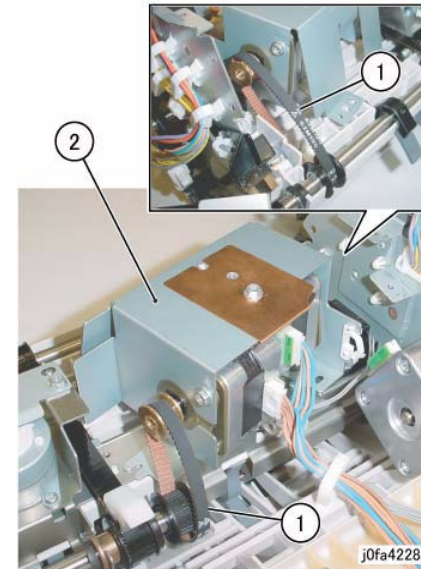

Figure 5 Removing the Eject/Set Clamp Motor Assembly
12. Remove the Eject/Set Clamp Motor Assembly (Figure 5):